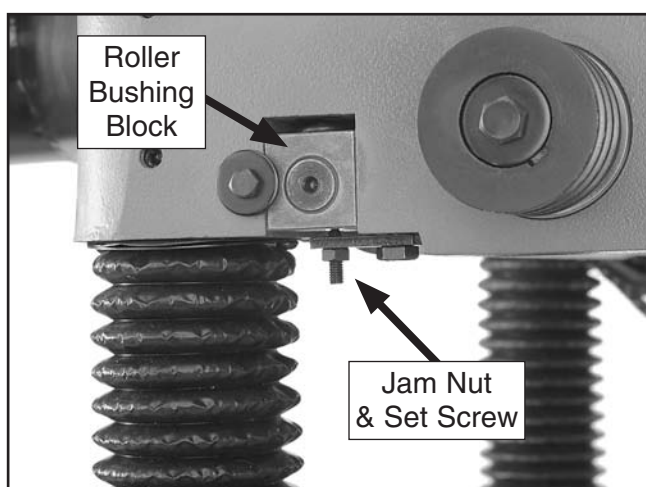

Figure 44. Infeed roller bushing block and height adjustment controls.
8. Loosen the jam nut and use the set screw shown in **Figure 44** to adjust the height of the infeed roller bushing block until the Rotacator dial shows 0.040", which is the recommended distance for the infeed roller below the cutterhead.